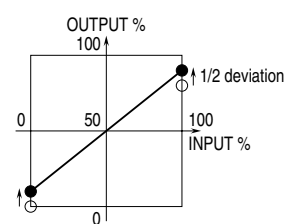

Fig. 8
- 4) Set the input to 100%. If there is a deviation in output signal, compensate half of the deviation via the Zero adjustment. See Figure 8.